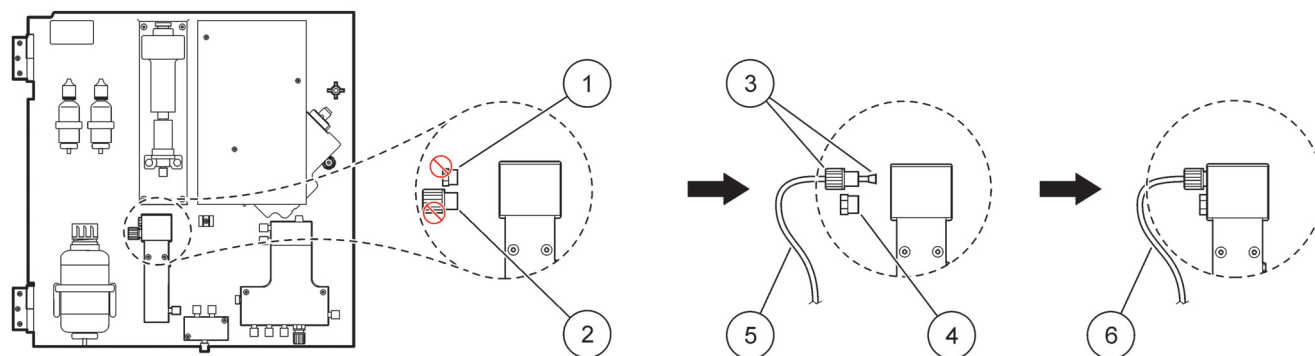

Figure 27 2-parameter option configuration
Refer to Figure 27 and following instructions to connect a 2-parameter configuration.
1. Remove the small blind plug (item 1, Figure 27) from the top hole on the overflow vessel. Remove the large fitting (item 2) from the bottom hole on the overflow vessel. Discard the plug and fitting.
2. Slide the small fitting (union and ferrule, item 3) over the tubing (item 5). Cut the tubing flush with the ferrule.
4. Close the bottom hole with the large blind plug and sealing washer (item 4).